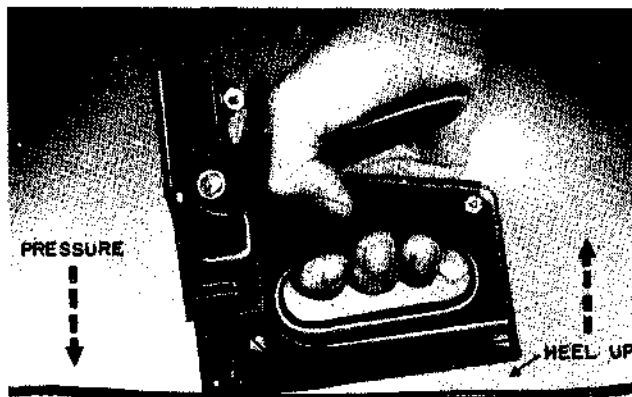

Fig. 3 — Holding Position for Markwell Stapler
**3.03** To drive a staple, place the stapler squarely over the wire and hold it firmly against the surface into which the staple is to be driven. Depress the handle. After this, a new staple will move into position for the next operation. Lift the heel of stapler slightly away from the work so that all downward pressure is at the door end when the staple is driven. (Fig. 3.)